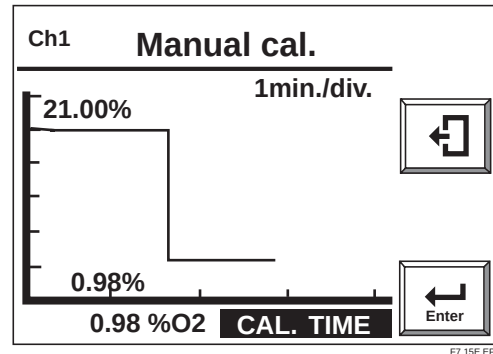

Fig. 7.15 Display during calibration
- 14) Select [Valve opened (Start Calibration)] and touch the [Enter] key. An oxygen concentration graph like Fig. 7.15 is displayed, and [CAL.TIME] status mark flashes. Wait for the graph measured value trace to stabilize. Calibration has not yet been performed, so it is not a problem if the displayed value is different from the correct value of zero gas concentration.